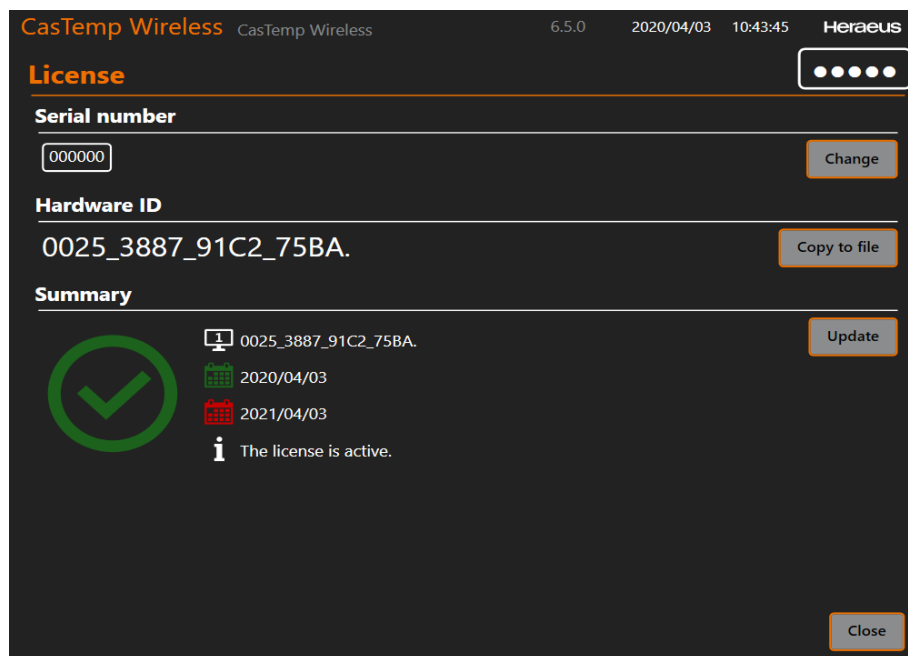

Figure 77: License Screen
8. In the license menu click “update” and locate this file and press ok. The screen of figure 77 shows a successful license installation